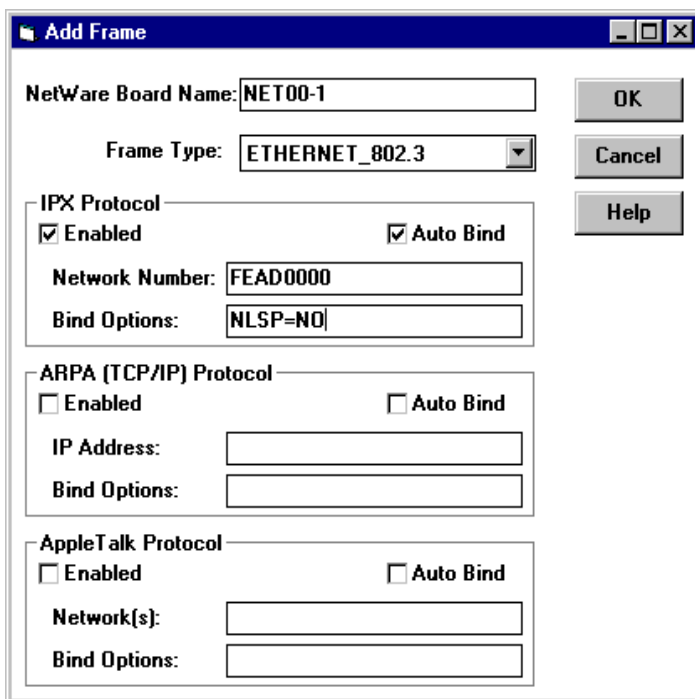

Figure 6-3. Add Frame Window Enabling IPX Protocol for NetWare 4.1
- You can run the same protocol with different Frame Types simultaneously over a link (using the protocol/frame type combinations in Table 6-2 only). The window shown in Figure 6-3 allows you to choose a particular protocol to be bound to a unique name (Network Board Name) and a particular Frame Type.